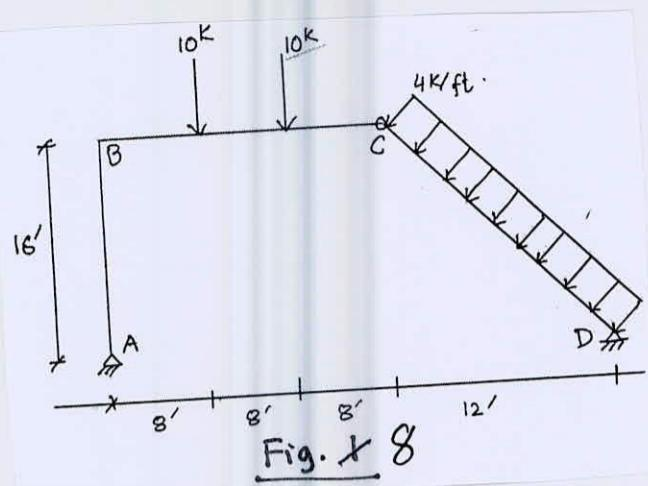

Fig. 8
5. Analyze the frame as shown in Fig. 8 and draw shear force and bending moment diagram. Consider internal hinge at C. (28)